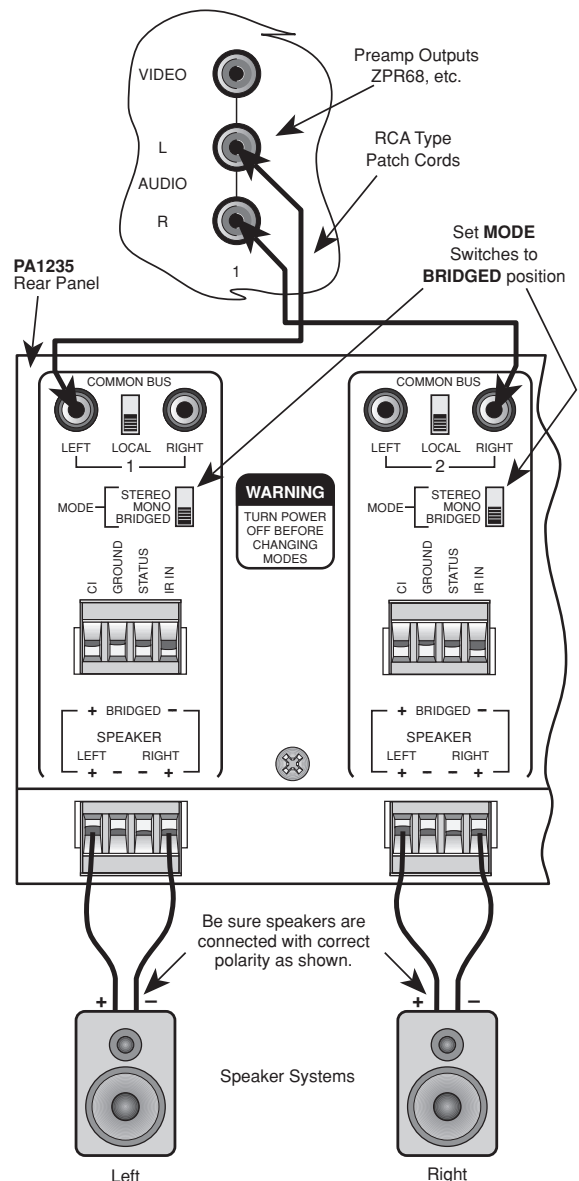

Fig. 7 BRIDGED Mode Connections
- You may connect the RCA-type patch cables from the OUTPUT jacks of the driving preamp or other source to either the LEFT or the RIGHT input jacks of the bridged pair, as shown in **Fig. 7**.
- Connect one speaker wire pair between the 4-terminal "SPEAKER" connectors on the PA1235 and the speakers as shown in **Fig. 7**. Be sure to use only the two outer terminals marked "+" and "-" on the 4-terminal connector as shown on the panel for BRIDGED connections.